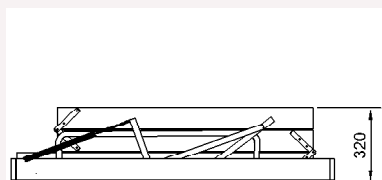
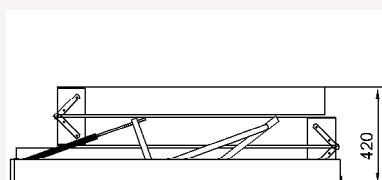

fig 2
fig 3
5. The area for the opening must be clear of wiring, plumbing and structural members such as beams and trusses with a minimum clear height above the ceiling of 320mm for the J24, R28 and R31 models (figure 2) and 420mm for the D27 and D31 (figure 3).